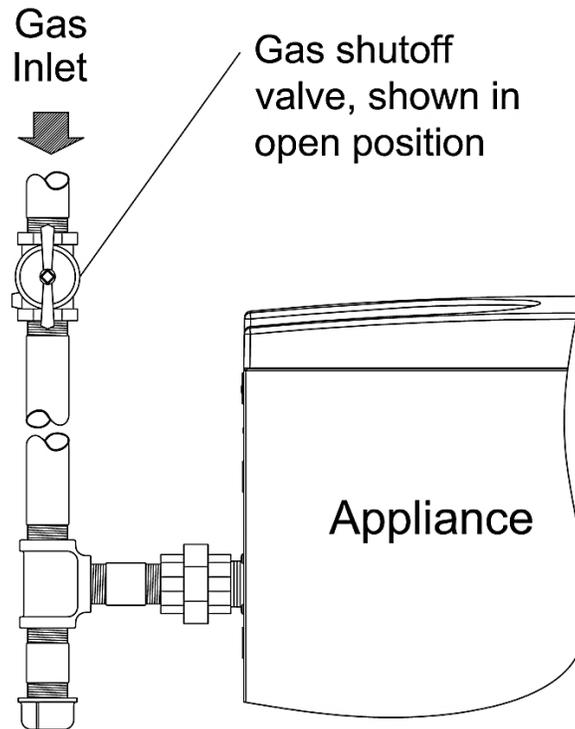

Figure 9-3: Gas Safety Shut-Off Valve
3. Close the manual shut-off valve (Figure 9-3) by turning the valve handle clock-wise. Do not force.